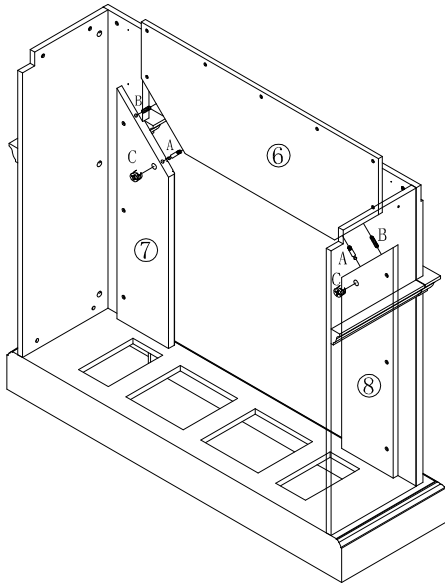

Figure 4
AFTER FINISHED FIGURE 4 ,INSERT (I) WOOD SCREW INTO BACK SIDE OF 6,7,8 AND HALFWAY FASTEN THESE SCREWS.